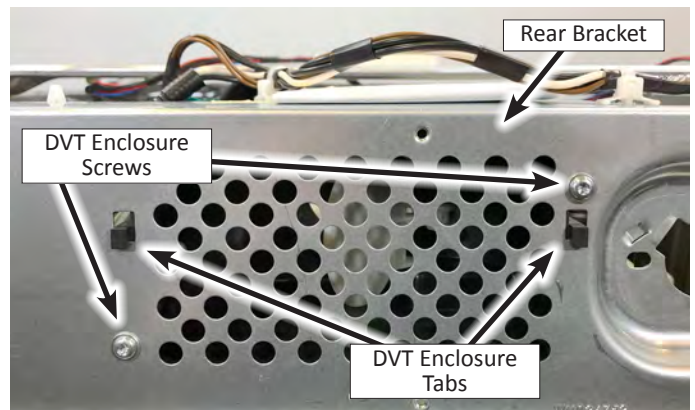

Figure 3
7. Using a T20 Torx driver, remove the two (2) screws securing the DVT enclosure to the rear bracket. See Figure 3.